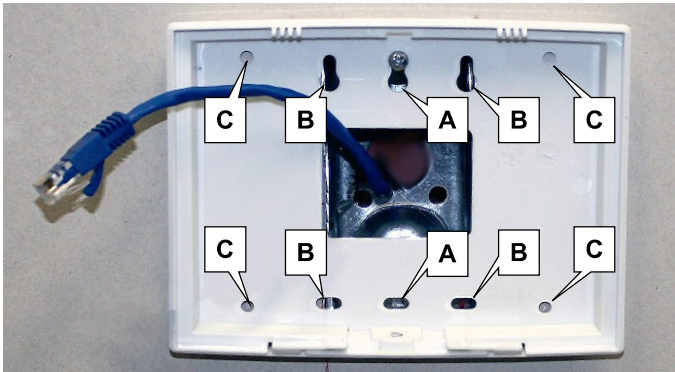

Fig. 2: Rear housing mounting holes for single-gang (A) and double-gang (B) electrical boxes, and four all-purpose holes (C)
2. Using the rear housing as a mounting template, secure the unit to a wall or other flat surface using the hardware provided (see page 6 for printed template). Shown in Fig. 2, the rear housing includes two mounting holes for single-gang (A) and four mounting holes for double-gang (B) electrical utility boxes, as well as four all-purpose holes (C) for mounting to drywall or other surfaces (use minimum #6 screws suitable for the surface).